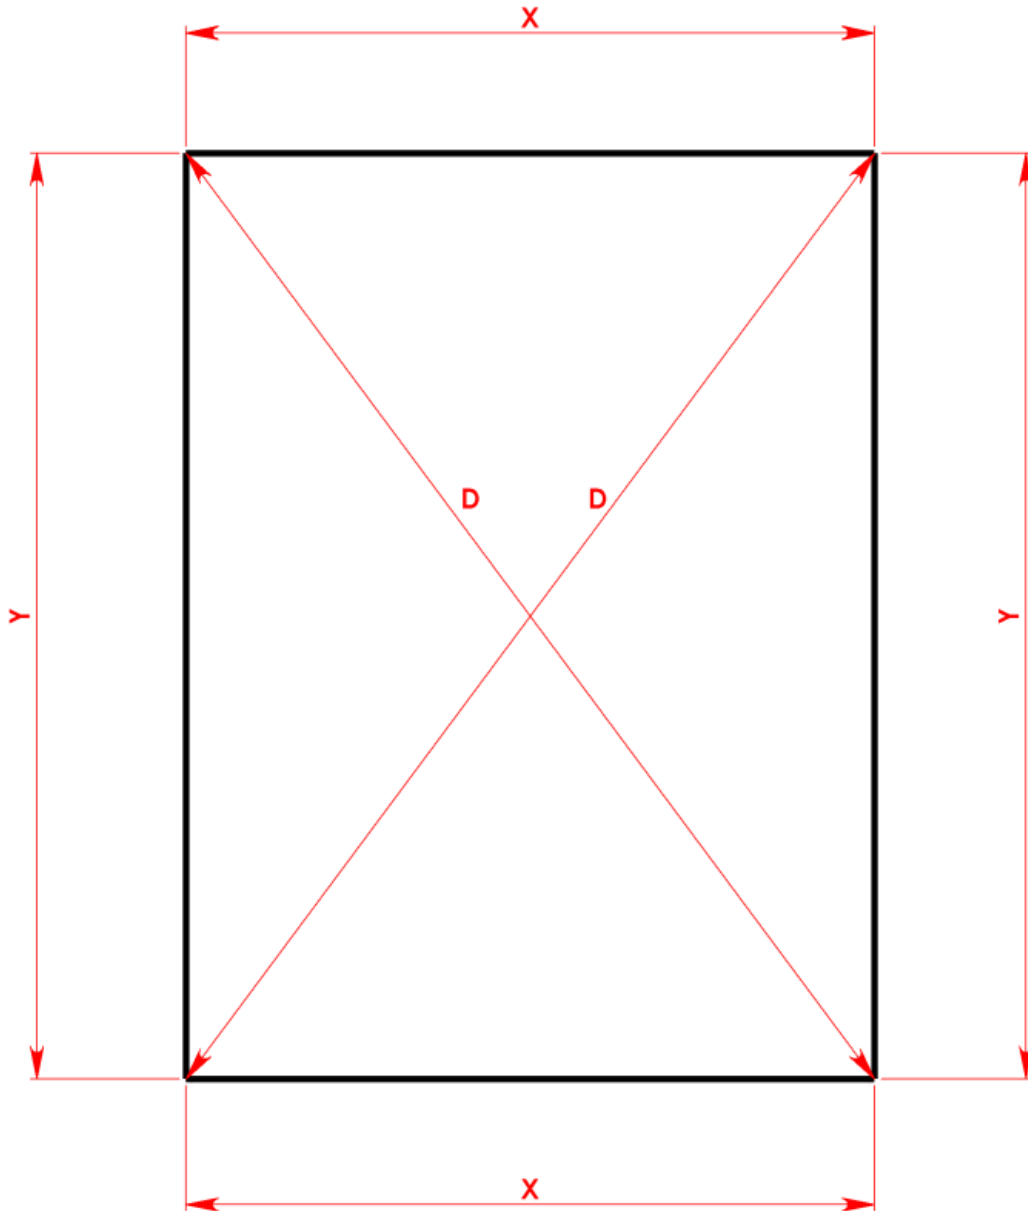

Fig 3
The width (X) should be parallel, the draw (Y) should be parallel, and the diagonals (D) should be equal. Shown in Fig 3